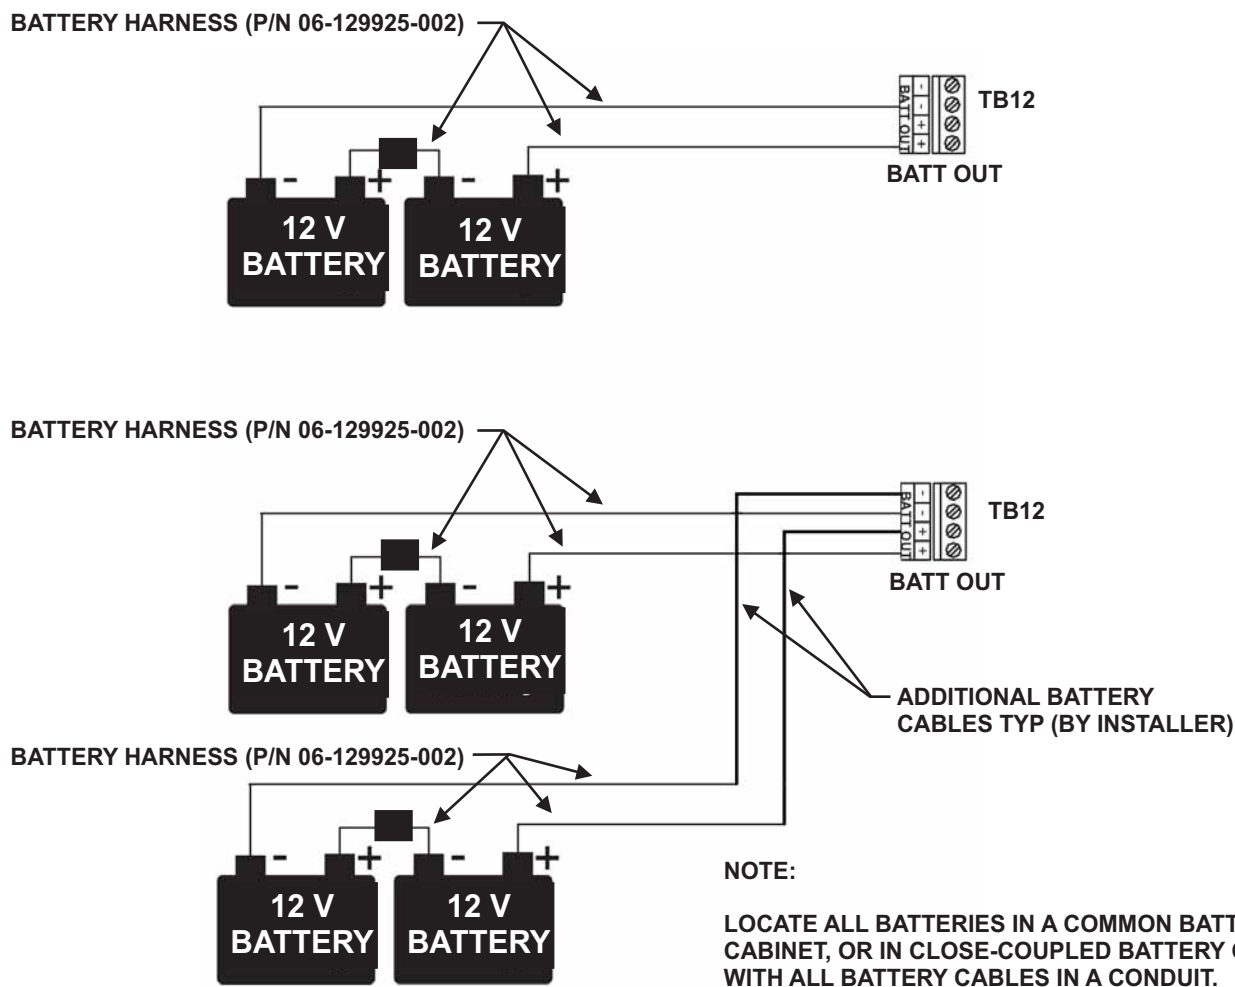

Figure 2-11. Backup Battery Connections
2. Ensure that the batteries are being placed into service within three (3) months of the ship date if stored at about 75°F (24°C) or within one (1) month if stored at 100°F (38°C). For longer storage time, they require charging per manufacturer's specification to prevent permanent loss of capacity.
3. Observing polarity, connect the two (2) or four (4) 12-volt series-wired batteries of the required ampere hour (AH) capacity to TB12 (Batt Out) using battery cable (P/N 06-129925-002). Refer to Figure 2-11.